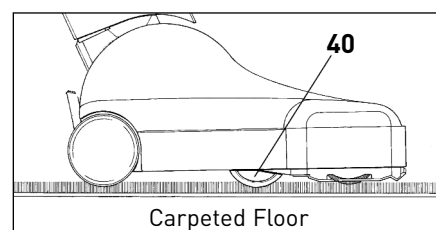

Figure 9
On carpeted floors (figure 9), the adjustment wheel (40) moves downward out of the machine so that the brush rises. The adjustment wheel moves up and down automatically to adjust the brush to the correct setting. This provides aggressive brush action, while maintaining optimal air flow.